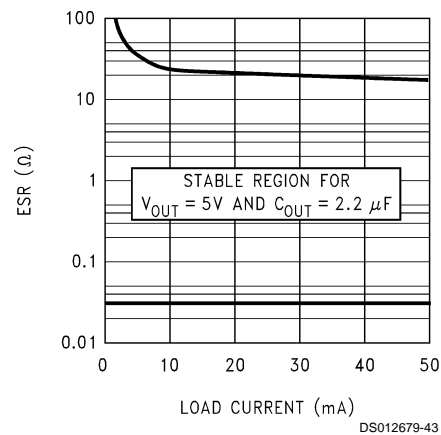
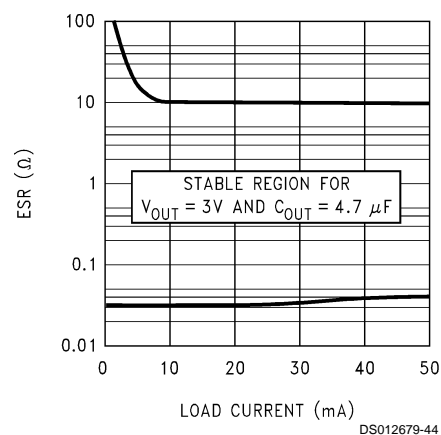

FIGURE 1. 5V/2.2  $\mu\text{F}$  ESR Curves
FIGURE 2. 3V/4.7  $\mu\text{F}$  ESR Curves
**OUTPUT CAPACITOR:** The output capacitor must meet both the requirement for minimum amount of capacitance and E.S.R. (equivalent series resistance) value. Curves are provided which show the allowable ESR range as a function of load current for various output voltages and capacitor values (refer to *Figure 1*, *Figure 2*).